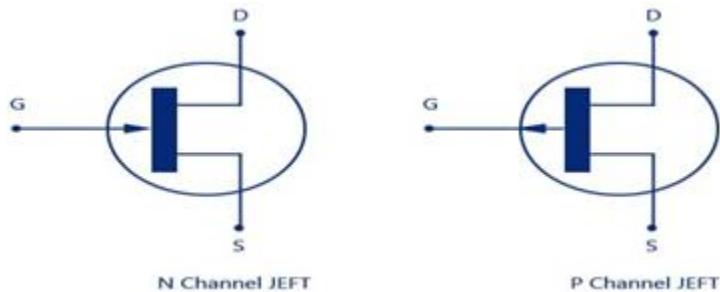

Fig. 4.1 Symbols of N - channel and P- channel JFET
- The symbol of N-channel and P-channel JFETs are shown in the figure 4.1.